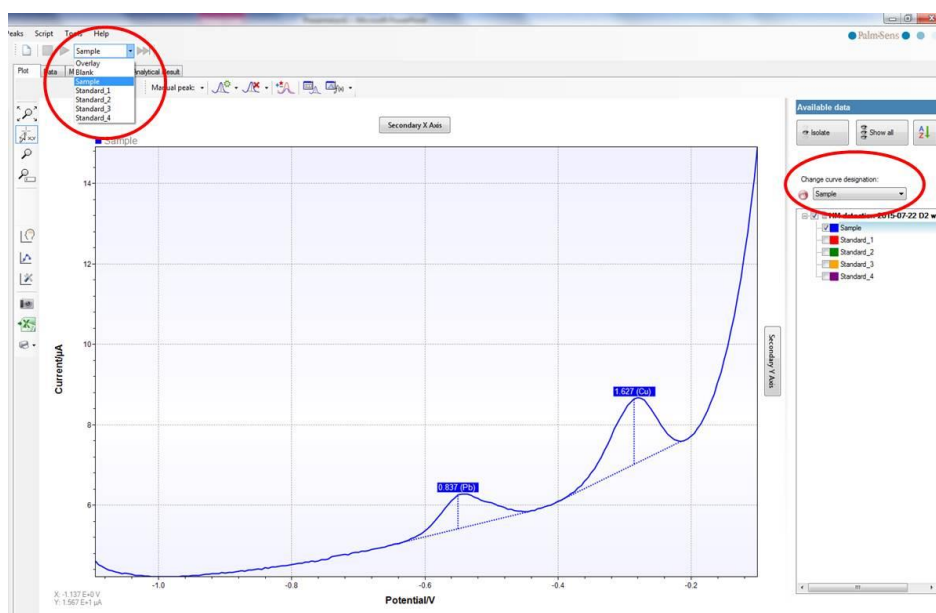

Figure 4.4: The first scan of the sample and the selection of a curve designation.
5. Add an amount of metal that roughly resembles the amount of metal you expect in your sample. Your addition has to be as specified in the analysis table. This can be done by adjusting your table or added volume. In this experiment 50 μL from each standard solution should suffice. Perform the measurement, select for this curve *Standard_1* from the dropdown box (see Figure 4.4). Repeat scans by selecting *Overlay* from the dropdown box and pressing run again until you get a stable peak height (<10 % peak height difference to the former scan). Assign the curve you want to keep as *Standard_1* as *Standard_1*.